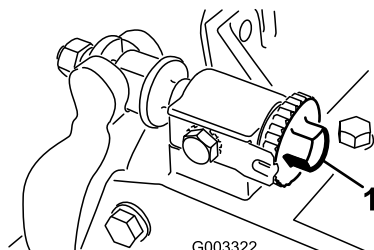

Figure 11
1. Position the cutting unit on a flat, level work surface. Turn the bedbar adjusting screws counterclockwise to ensure that the bedbar does not contact the reel (Figure 11).
**Important:** Make sure nuts on back end of bedbar adjusting screws are not resting on the work surface (Figure 11).